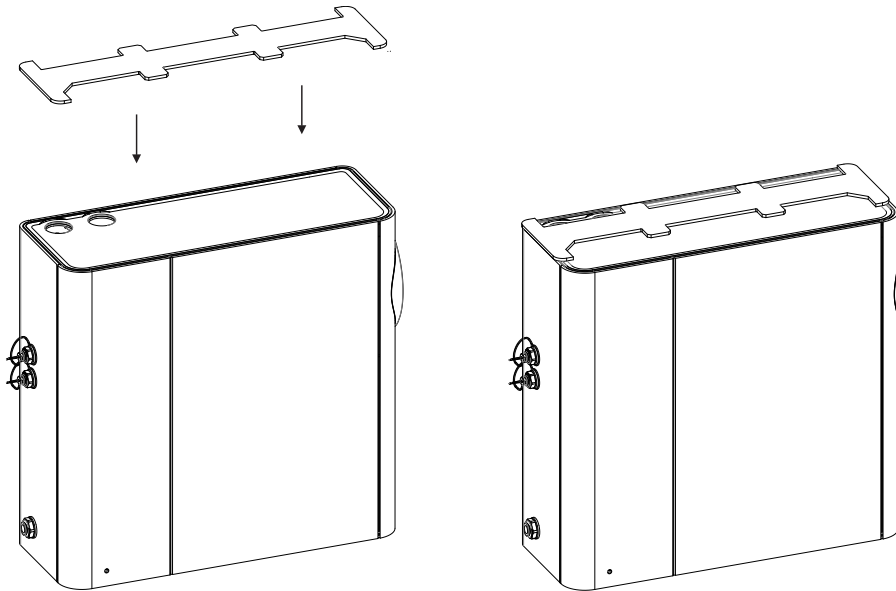

Figure A-10: Place the Mounting Bracket spacer on top of the detector
2. Place the mounting bracket spacer flat on top of the detector (Figure A-10).